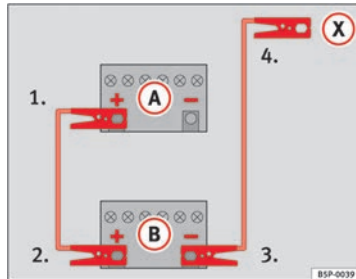

Fig. 159 Diagram of connections for vehicles without Start-Stop system
- Connect one end of the *red* jump lead to the positive \oplus terminal of the vehicle with the flat battery $\textcircled{A} \Rightarrow$ Fig. 159.
- Connect one end of the *black* jump lead to the negative terminal \ominus of the vehicle providing assistance $\textcircled{B} \Rightarrow$ Fig. 159.